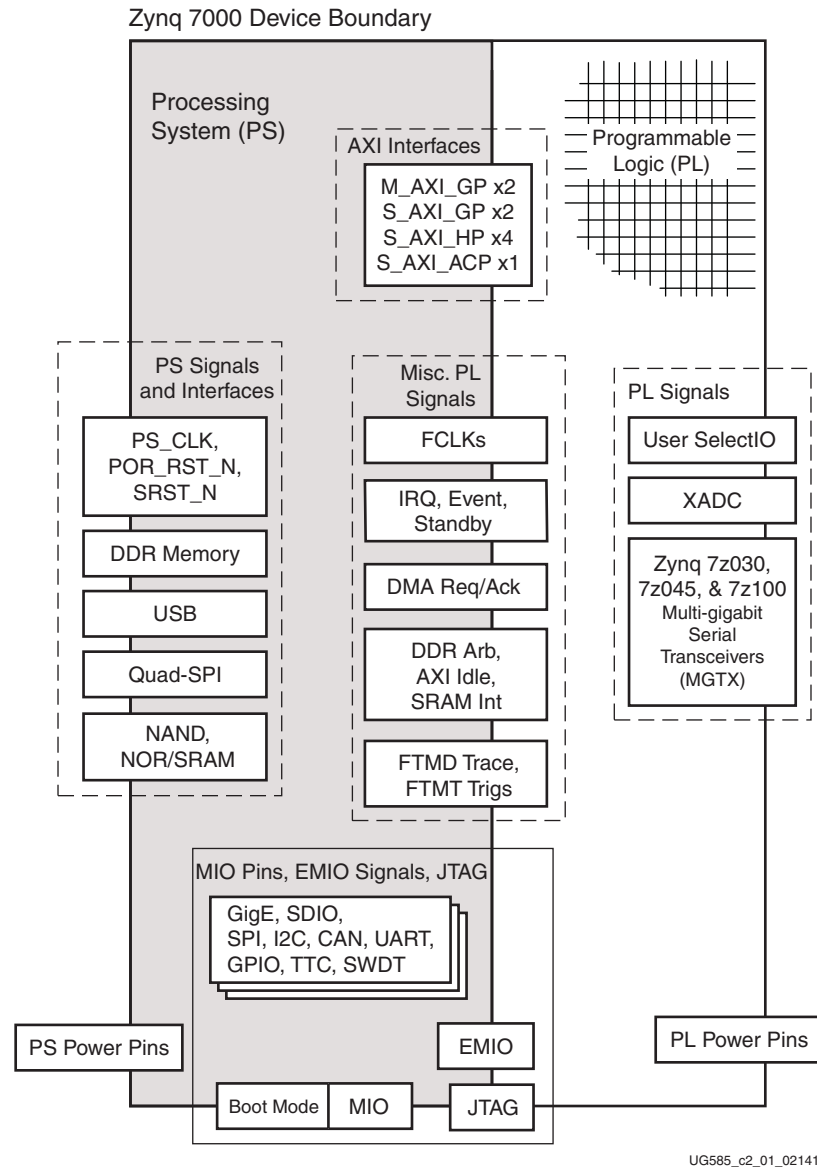

Figure 2-1: Signals, Interfaces, and Pins
This chapter identifies the user visible signals and interfaces in Zynq-7000 AP SoC devices. The interfaces and signals are organized into major groups as shown in Figure 2-1. The Zynq-7000 AP SoC devices consist of a Processing System (PS) with a Xilinx Artix™-7 or Kintex™-7 based Programmable Logic (PL) block.